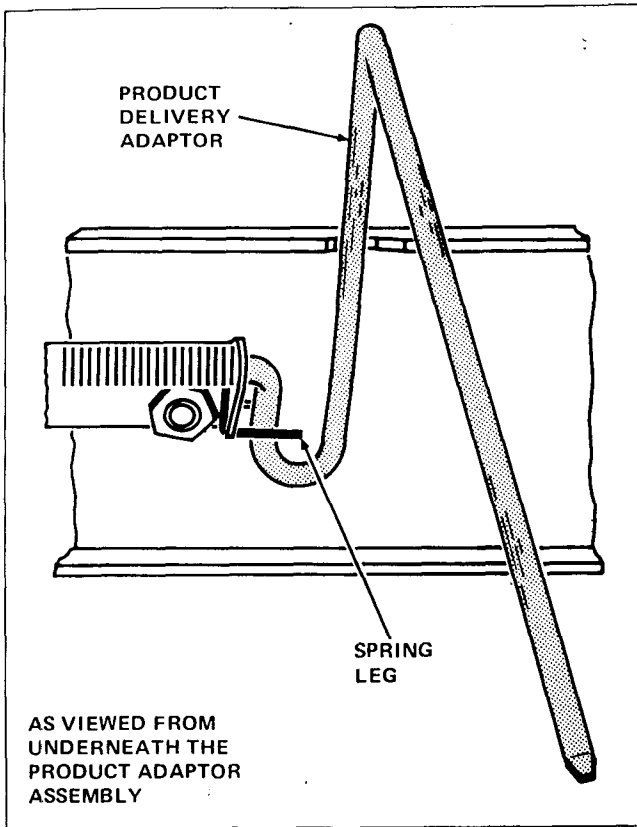

FIGURE 3
5. Locate the Spring Leg, which applies tension to the Product Delivery Adaptor, of the Column to be adjusted. See Figure 3.
*If pastry type items are to be vended from a pastry Column adjusted to vend snack type bagged items, the Spring Leg must be returned to the position in Figure 3, so that tension is applied to the Product Delivery Adaptor.*